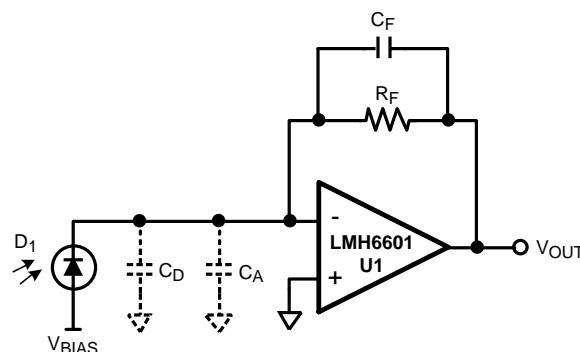

Figure 59. Typical Connection of a Photodiode Detector to an op amp
Being capable of high speed and having ultra low input bias current makes the LMH6601 a natural choice for Current to Voltage applications such as photodiode I-V conversion. In these type of applications, as shown in Figure 59 below, the photodiode is tied to the inverting input of the amplifier with RF set to the proper gain (gain is measured in Ohms).
**Table 3. Transimpedance Amplifier Figure 59 Compensation and Performance Results**